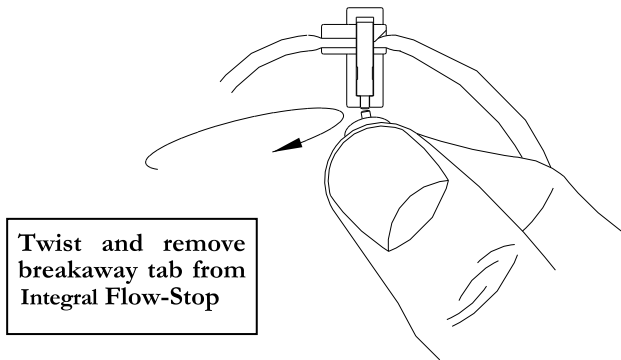

Figure 2.5 Curlin Infusion Administration Set Integral Flow-Stop with Breakaway Tab
1. To gravity prime the administration set, twist and remove the breakaway tab from the Integral Flow-Stop, then spike the IV bag. Squeeze the Integral Flow-Stop between your thumb and forefinger to allow fluid to flow through the tubing until all air is removed from the IV bag and administration set (see figures 2.5 and 2.6). Release the Integral Flow-Stop to automatically clamp the tubing. **To correctly prime a filtered set, hold the filter in a vertical position with the flow downwards and allow the filter to completely fill with fluid.**